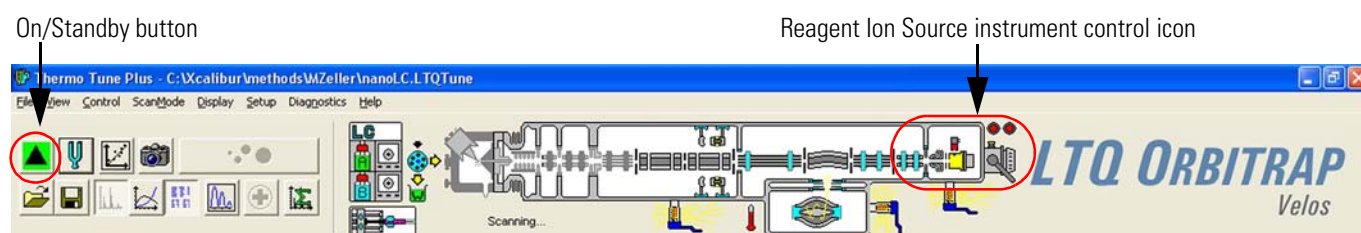
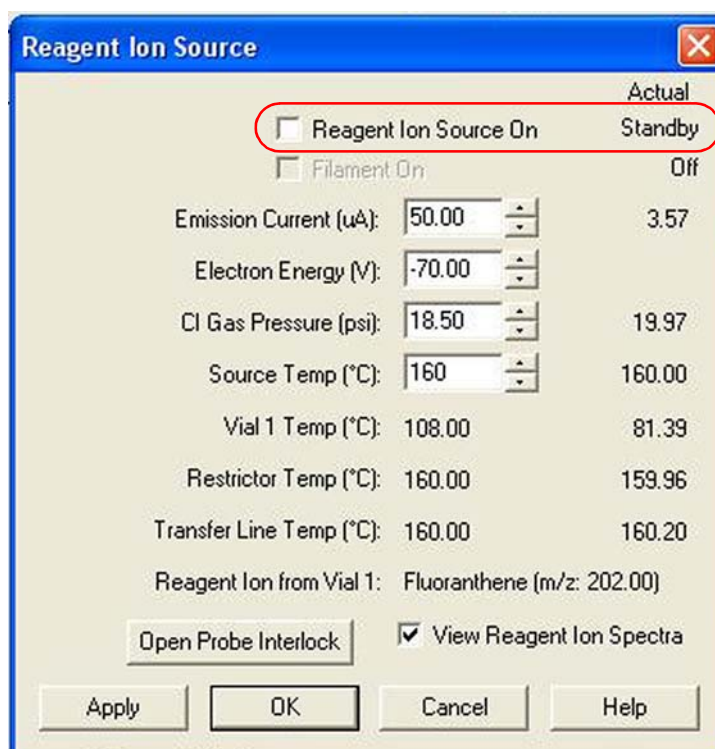

Figure 2-2. Tune Plus window, toolbar
Figure 2-3. Reagent Ion Source dialog box with Reagent Ion Source On box and Actual condition circled
You can determine the state of the MS detector by observing the state of the On/Off/Standby button on the Control/Scan Mode toolbar. See Figure 2-2. The three different states of the On/Standby button are shown at the left.
2. Click the Reagent Ion Source portion of the instrument control graphic at the top of the Tune Plus window. (See Figure 2-2.) The Reagent Ion Source dialog box appears. (See Figure 2-3.)
3. In the Reagent Ion Source dialog box, clear the Reagent Ion Source On box to place the Reagent Ion Source in Standby condition. See Figure 2-3 on page 2-5. This places the Reagent Ion Source in Standby condition as indicated by the Actual condition shown to the right of the Reagent Ion Source On box.
You can determine the state of the MS detector by observing the state of the On/Off/Standby button on the Control/Scan Mode toolbar. (See Figure 2-2 on page 2-4.) The three different states of the On/Standby button are shown at the left.